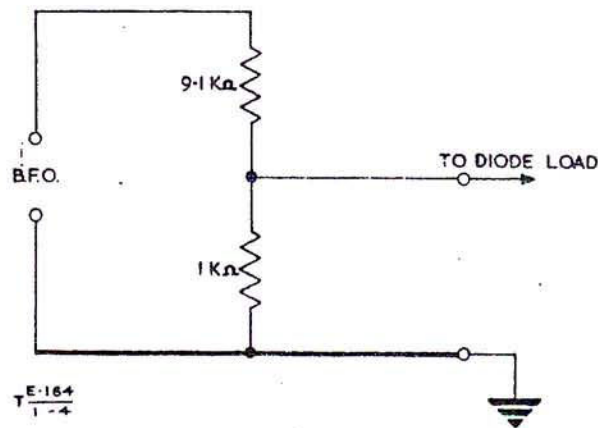

Fig 4 - B.F.O. attenuator
43. In order to obtain the low voltages necessary for this test a simple 10 to 1 attenuator (see Fig 4) must be manufactured locally. Connect the B.F.O. via the attenuator to the junction of R13 and C12 and to chassis. With the A.F. gain control set for 1W output, the A.F. response must be as shown in Table 3.